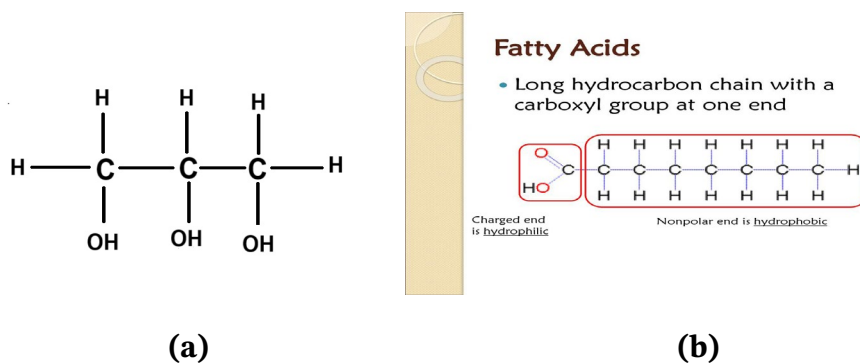
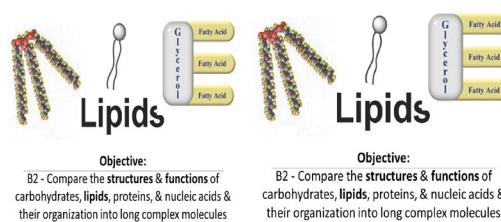

Figure 4.2: Structure of glycerol (a) and fatty acid (b)
Figure 4.4: Simple Lipid - Triglyceride
Glycerol consists of *three* carbon atoms; each bonded to a hydroxyl (OH) group and hydrogen atoms. See **Figure 4.2 (a)**. For instance, triglycerides have one glycerol backbone attached to three fatty acid chains, as shown in **Figure 4.4**.
Simple lipids are made from fatty acids, which are long chains of carbon atoms with a carboxylic acid group ($-\text{COOH}$) at one end. See **Figure 4.2 (b)**. They are the main components of triglycerides. Depending on the alcohols they contain, simple lipids can be classified as fats, oils, or waxes. At room temperature, fats are solid, while oils are liquid.